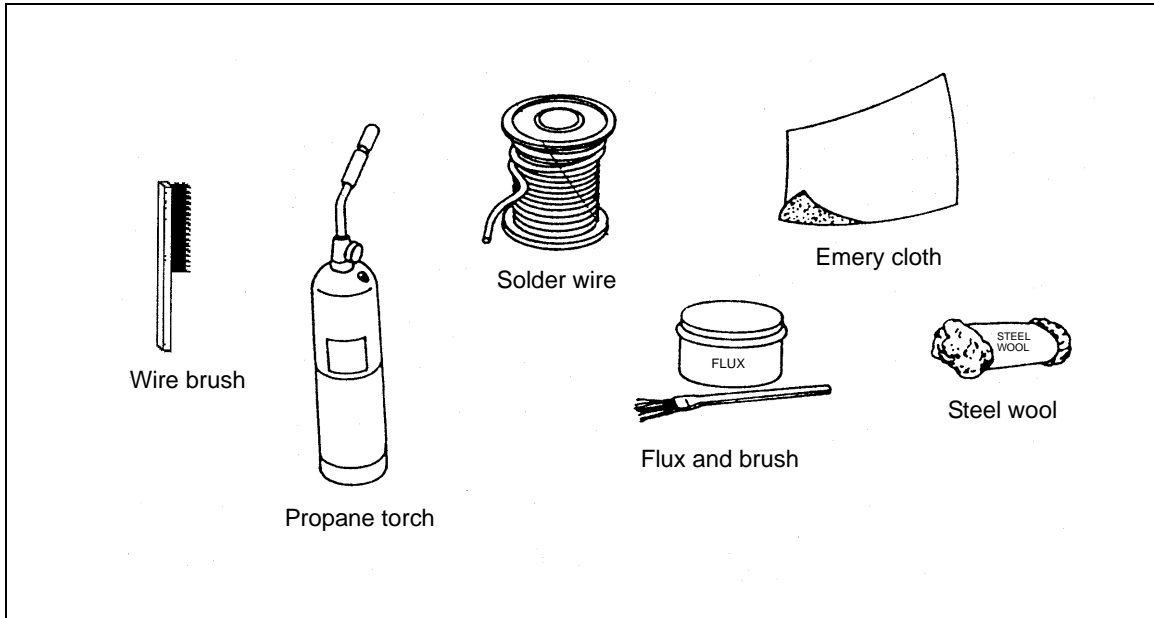
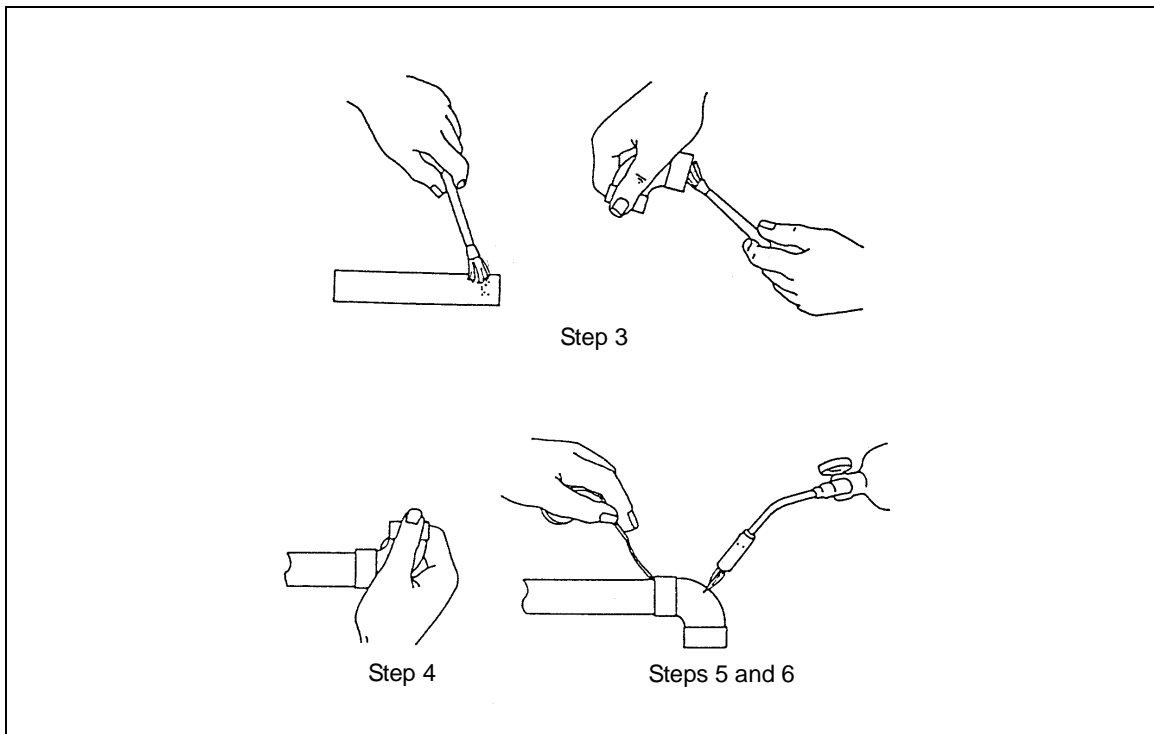

Figure 6-34. Soldering Tools and Materials
Figure 6-35. Soldering a Joint
6-70. Soldered joints are used to connect rigid copper tubing. The following tools and materials are needed: a heating torch, 95-5 (95 percent tin and 5 percent aluminum) nonacid solder, soldering flux, and emery cloth or steel wool (*Figure 6-34*). Use *Figure 6-35* and the following steps to make a soldered joint:
Step 3. Apply a thin coat of flux to the shined end of the tubing and fitting (*Figure 6-35*).
Step 4. Push the fitting onto the tubing and give it a quarter turn to spread the flux evenly (*Figure 6-35*).
Step 5. Heat the connection with a torch, applying the flame on the fitting (*Figure 6-35*).